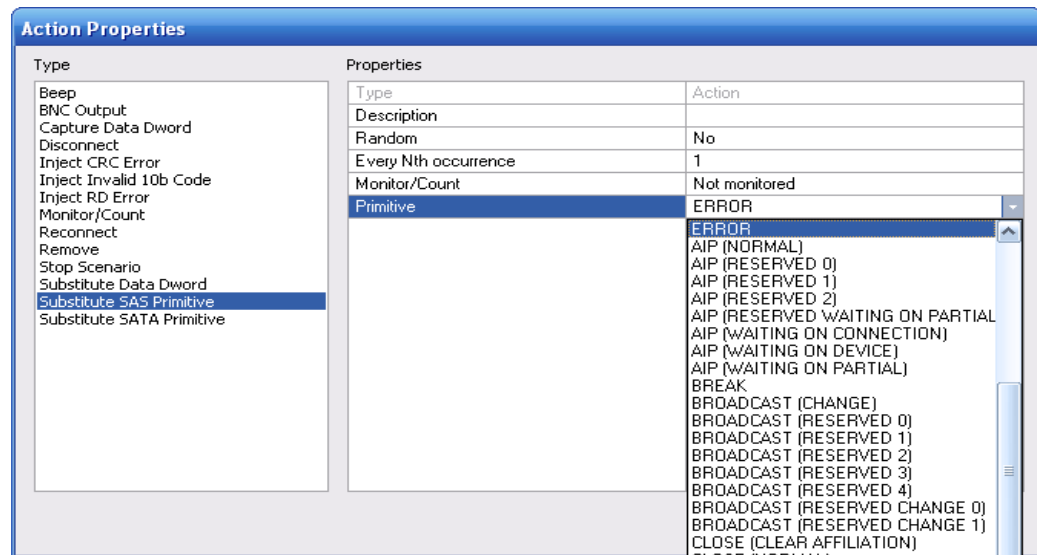

Figure 52 Example 2: Action Drop-Down List
- Step 7** Still in the middle column of the Event Properties dialog box, click on **Primitive** to bring up a drop-down menu that lets you choose the type of primitive to substitute for RRDY (Normal) (Figure 52). Choose **ERROR**.